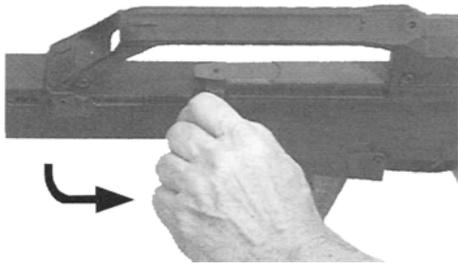

Fig. 33: Swivel out and pull back cocking lever
- Swivel the cocking lever to the left or to the right, pull it all the way to the rear (Fig.33) and hold it.